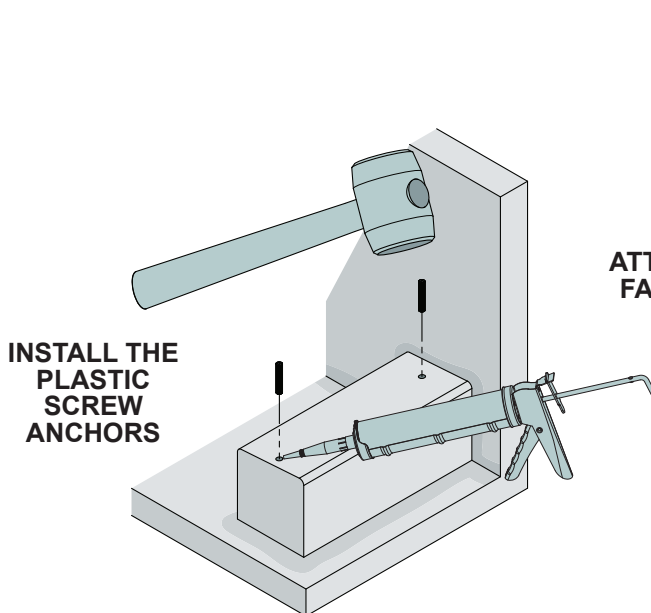

Figure 7
3. Fill the holes with **Cat. No. 33SMRC or 33SC** Silicone Sealant (not included). Insert the plastic screw anchor using a rubber mallet. Trim excess with blade. (Figure 7)